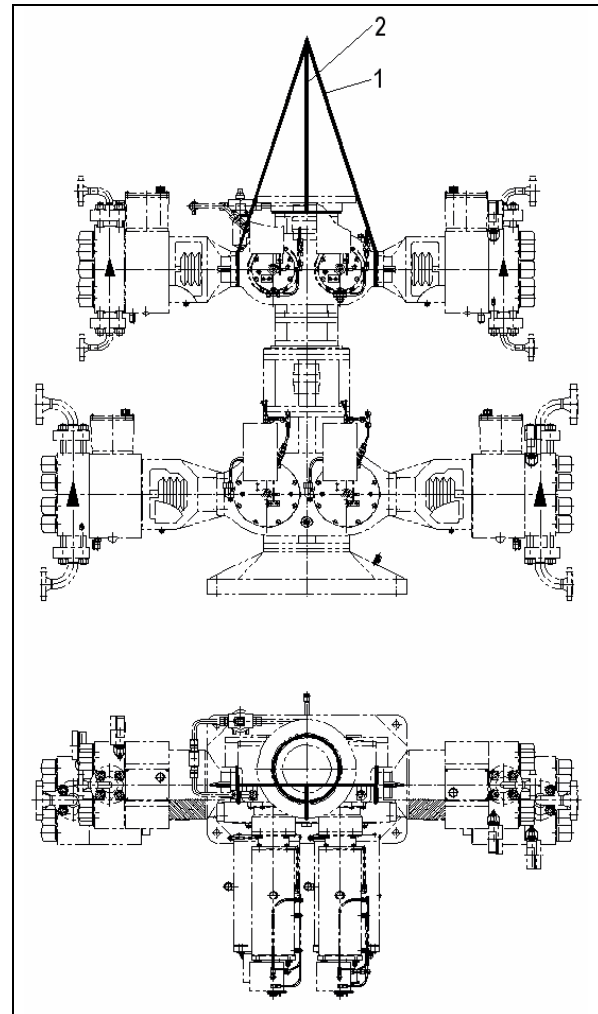

Fig. 8.19: Lifting suggestion with transport ropes
See Figs. 8.19 & 8.20, item 1
The arrangement shown in Fig. 8.19 allows the pump to be lifted close to the centre of gravity and transported.